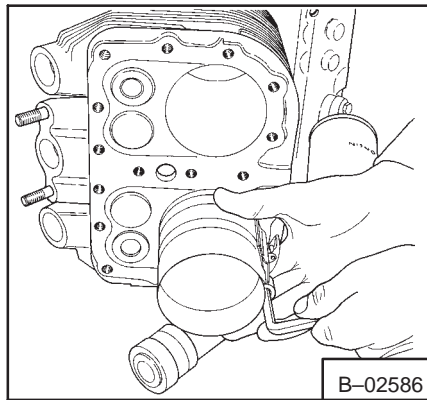

Fig. 7A-28 Install Pistons
1. Install the oil pump into the crankshaft housing (Fig. 7A-30). Be sure that the seat for the lock screw is in line with the hole for the screw in the crankshaft housing.